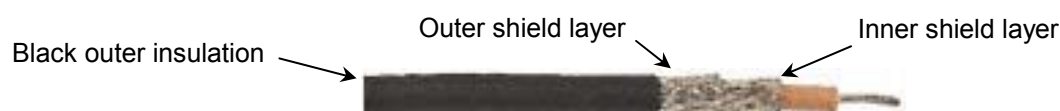

Figure 23. RG400 Co-Axial Antenna Cable
- The cable used for the Antenna should be high quality, such as RG400 (Shown in Figure 23). This cable has a double layer of shielding and better RF insulation than other cable types. Note that the coaxial cable included in most antenna kits tends to have a single layer of insulation. BNC connectors are recommended for most applications, and wherever possible crimped connectors which require a special crimper to assemble should be used. Crimped connectors are much less prone to RF leakage or assembly issues than other types (such as screw-together BNC connectors).